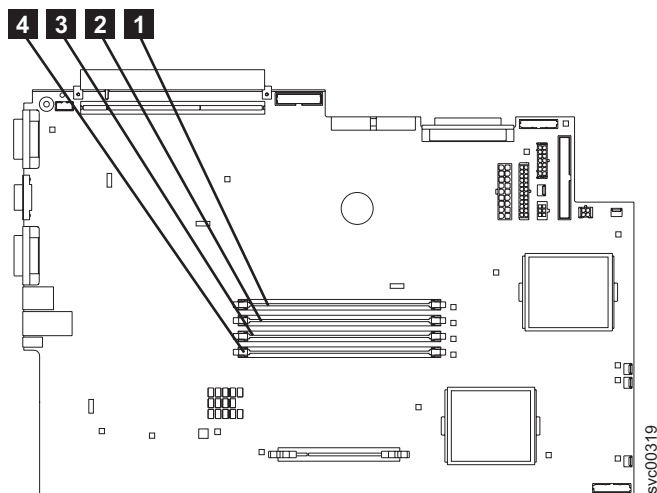

Figure 82. Locating the SAN Volume Controller 2145-4F2 memory modules
- SAN Volume Controller 2145-4F2: When these memory modules are viewed from the front of the node, as shown in Figure 82, the modules are numbered **4** through **1**, from left to right. Modules **4** and **3** are in bank 2; modules **2** and **1** are in bank 1.